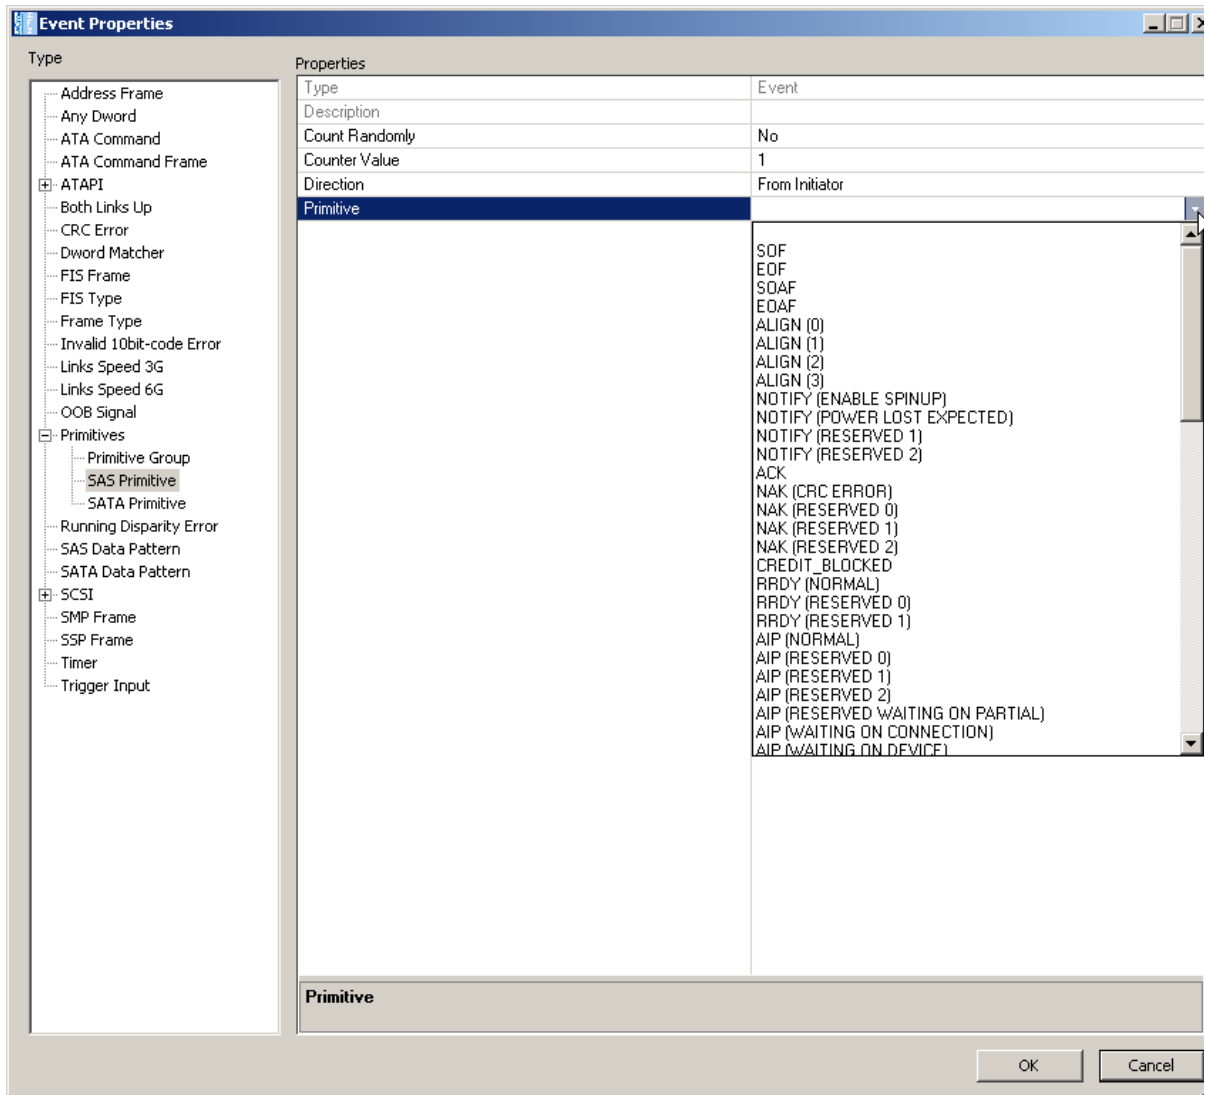

Figure 4.25: Example 1: Event Drop-Down List
7. Still in the middle column of the Event Properties dialog box, click **Primitive** to display a drop-down menu that lets you choose the type of primitive for which to substitute for RRDY (Normal) (see Figure 4.25 on page 353). Choose **ERROR**.